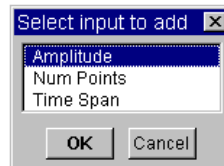

Figure 1-39. Example: Adding Input Terminals
1. Click on the object menu or press **Ctrl+A** with the mouse pointer in the “terminal area” at the left side of the *Noise Generator*. The dialog box appears for you to add an input, as shown in Figure 1-39.